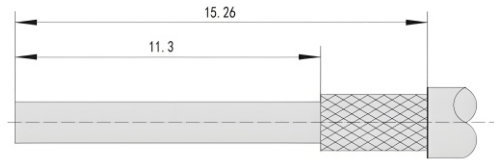

Figure 1.8
- ①As shown in Figure 1.8, strip the cable. The end face must be cut clean and perpendicular to the cable's axial direction. The cable must not be deformed during cutting. Thermal stripping is recommended.